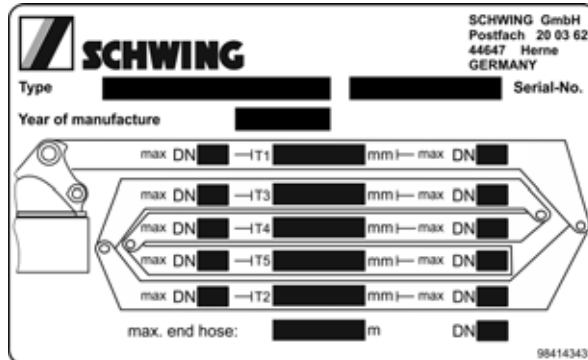

Fig. 145 Example: Type plate on 5-part boom
A distinctive type plate is located on the placing boom for the placing boom pumping line (**Fig. 145**). The nominal sizes (DN) specified on this type plate are the maximum allowable.
Caption for (Fig. 145)